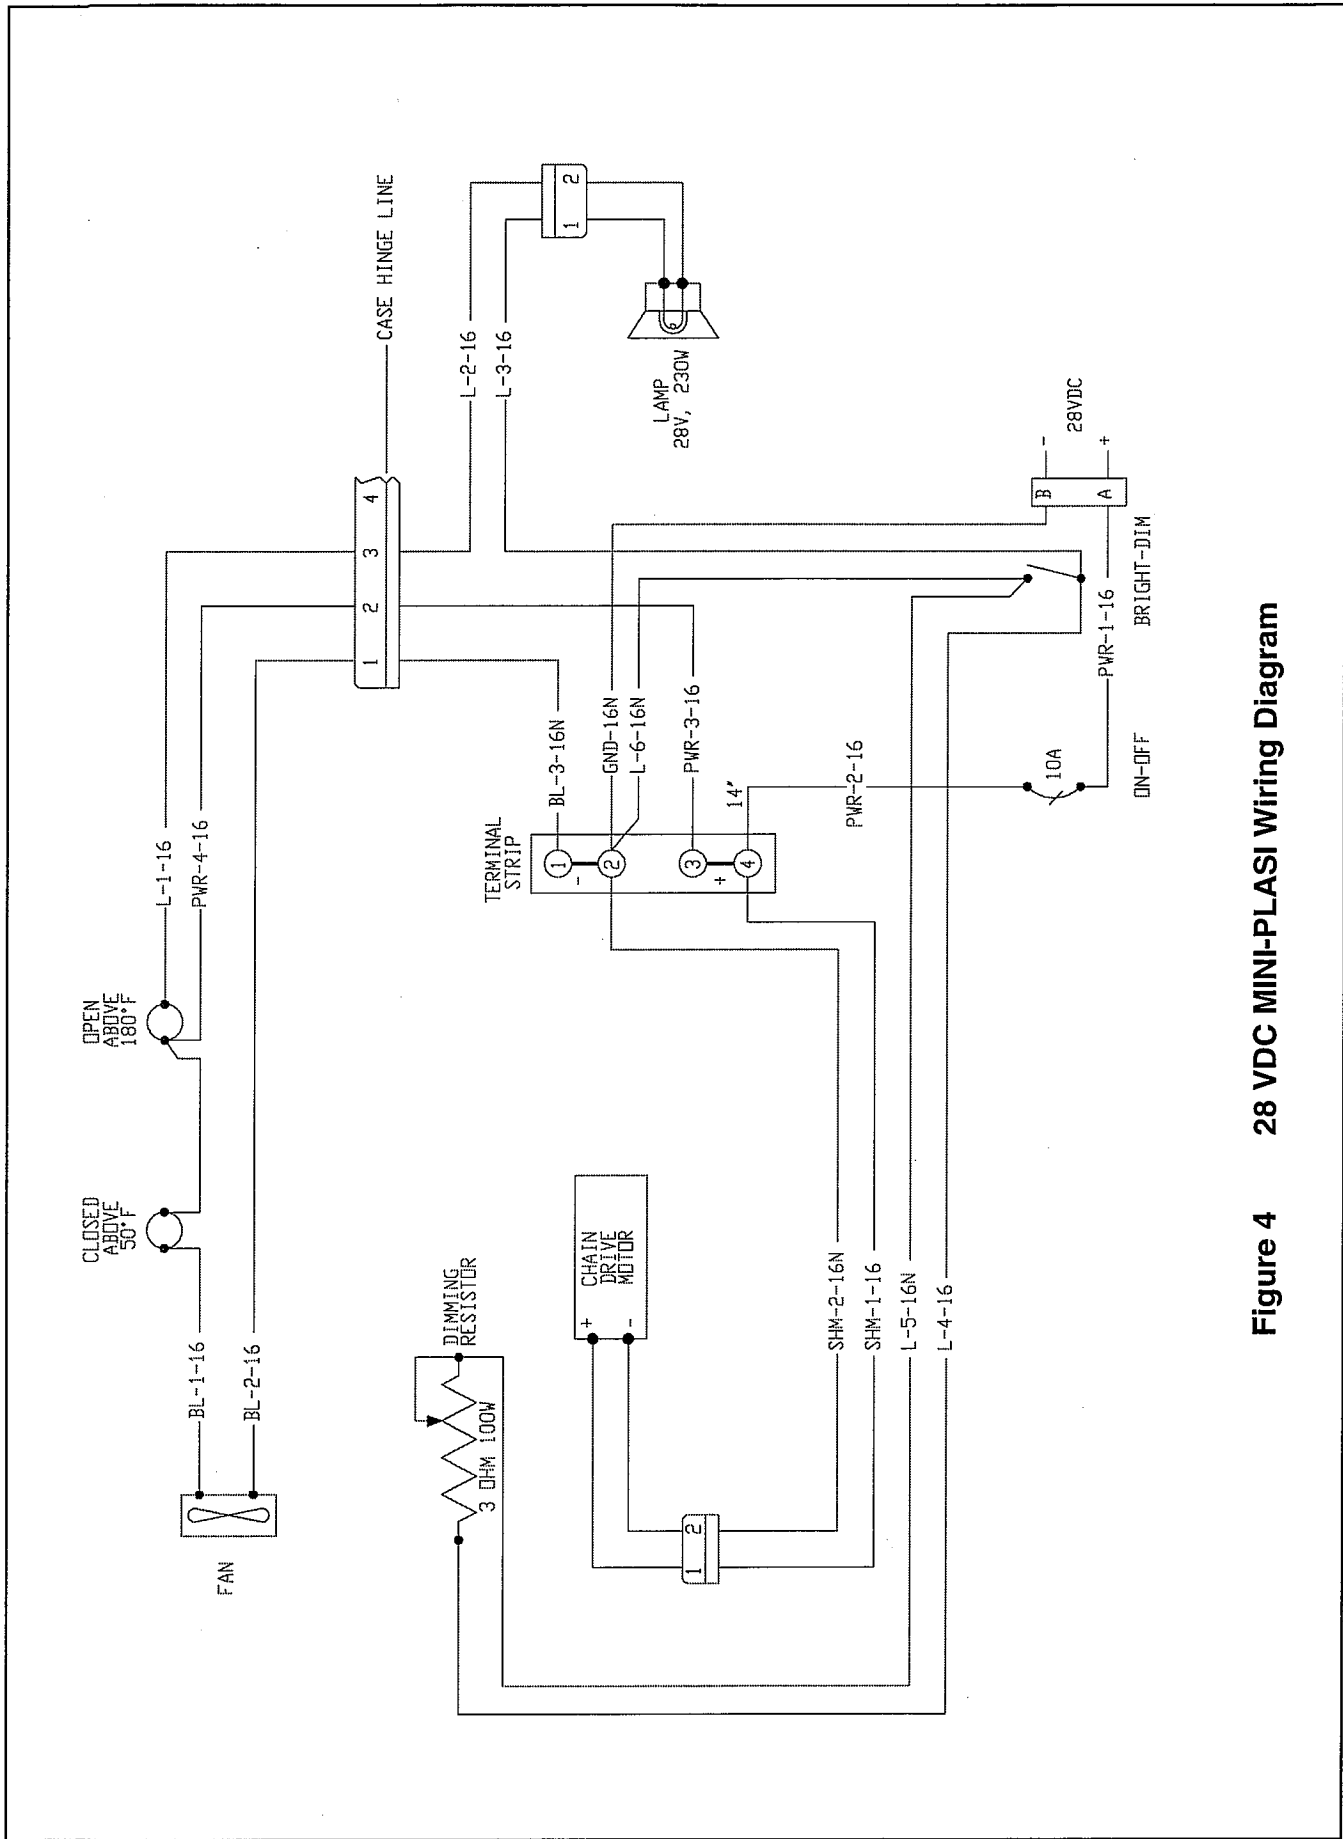

Figure 4 28 VDC MINI-PLASI Wiring Diagram
Figure 4 provides the wiring diagram for the 28 VDC MINI-PLASI unit.
- g. Connect electrical power to the MINI-PLASI, (**See Figure 4 or 5**)